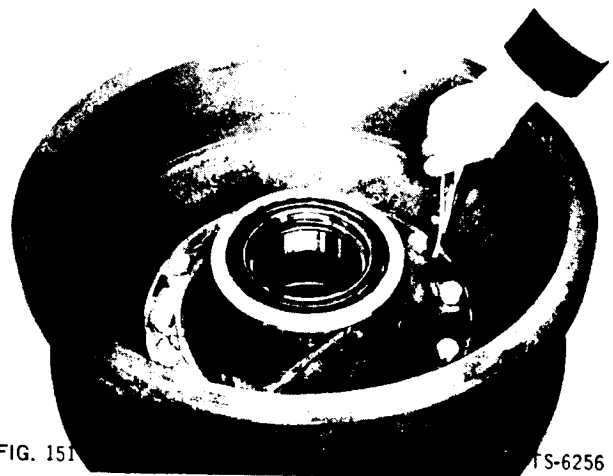

FIG. 151
- 7. Lock-wire bolts in pairs (Fig. 151).